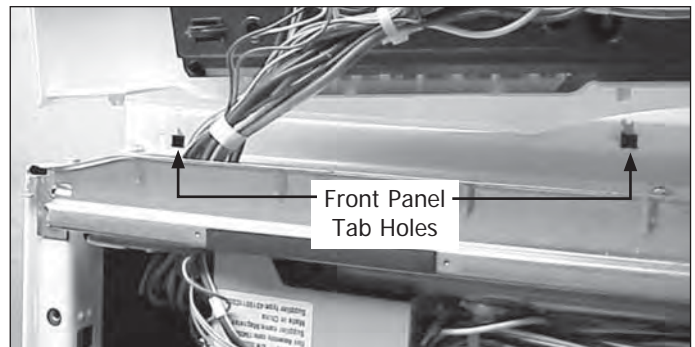

Figure 4-22. Affinity Series
5. Roll the console forward, while lifting up to release the bottom tabs from the front panel. (See Figure 4-22)